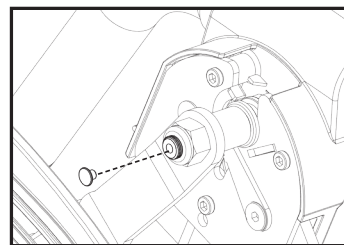

Figure 1
- **Figure 1.** Pull the rubber Roller Hinge Bolt Plug from the Roller Hinge Bolt.